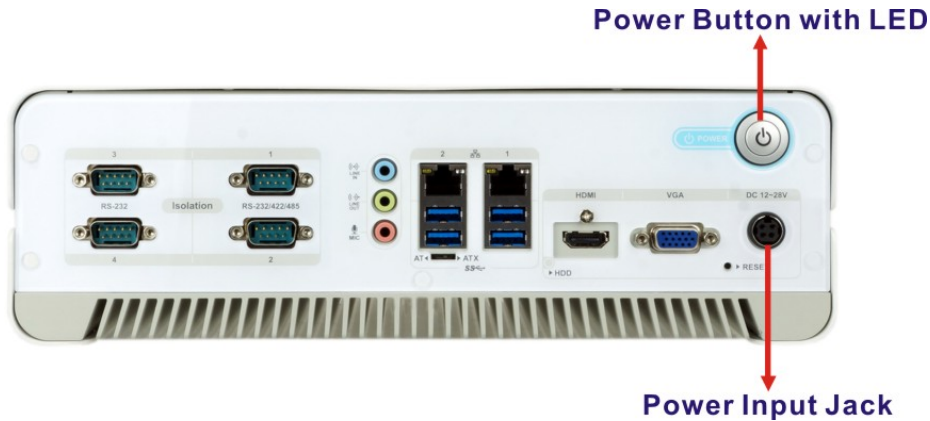

Figure 3-25: Power Button and Power LED
- Step 3:** Short-press the power button until the power LED lights on in blue (**Figure 3-25**).